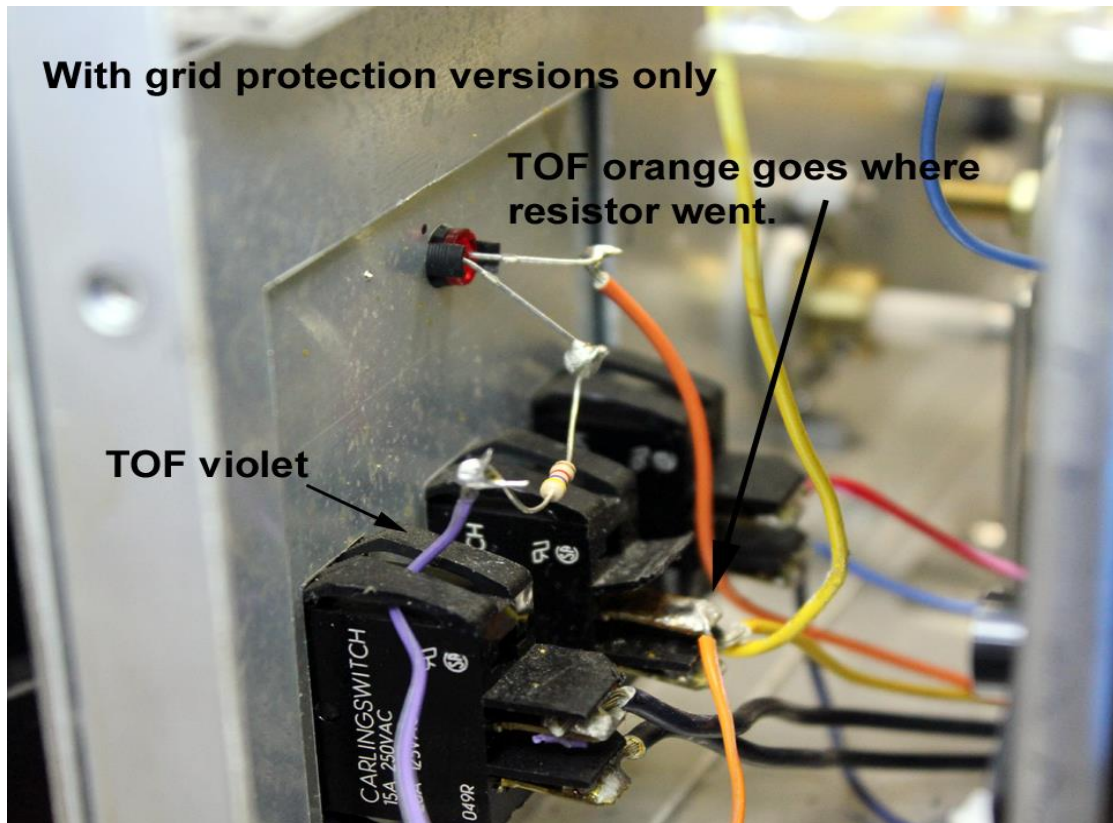

Figure 3 Series resistor (later cube relay amplifiers) using a switch locking tab to support the violet wire
- 2.) We only provide this internal resistor choice because of the various ways MFJ wires things. You can loop the violet wire through the power switch tabs to support the violet wire and resistor. See figure 3